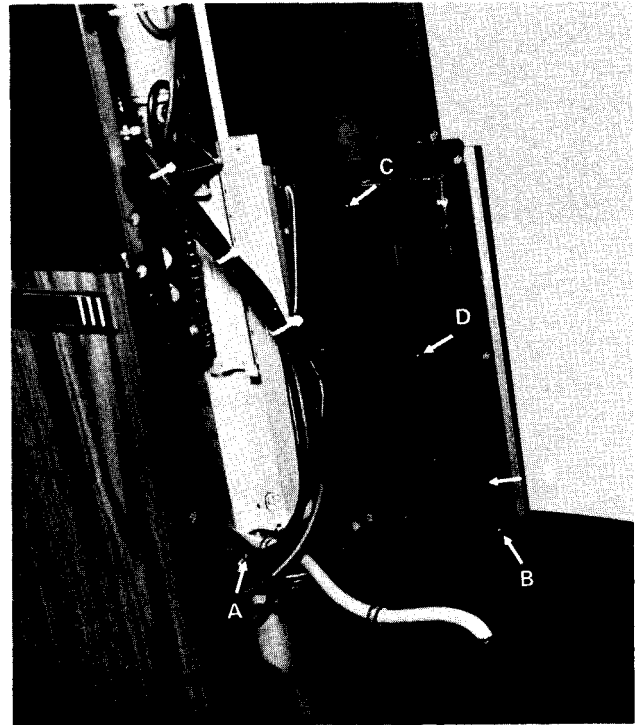
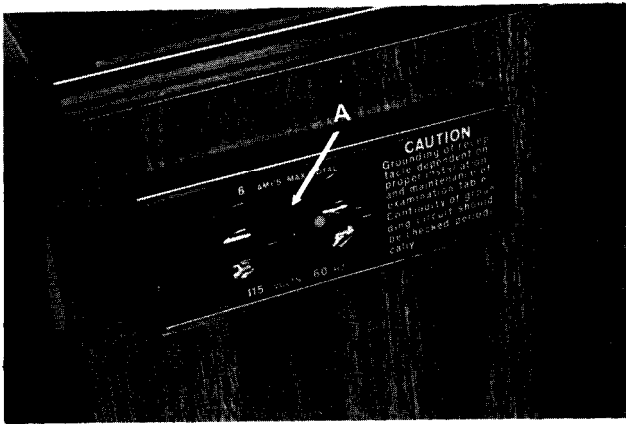

Fig. 7
Fig. 8
- 4) Loosen wire clamp, Item A, Fig. 7 and remove wire from clamp.
- 5) Remove the panel shroud by removing the (3) screws located on the bottom flange. (Item B, Fig. 7).
- 6) Remove wire raceway by removing (6) screws, Item D, Fig. 7.
- 7) Remove receptacle cover by removing cover screw, Item A, Fig. 8, and screw on back side of panel, Item C, Fig. 7.
- 9) Remove (4) panel mounting screws, Item E, Fig. 7.
- 11) Replace the panel shroud to the table base using (3) #10-3/8" screws.